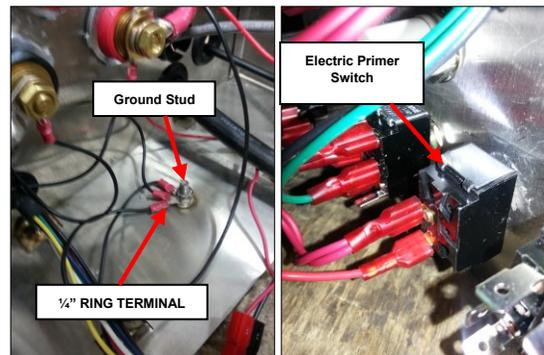

Figure 9
9. Install the 1/4" ring terminal to the ground stud inside the **WCP**. Install the female tab of the red wire onto the middle male tab of the Electric Primer switch. (**Fig.9**)